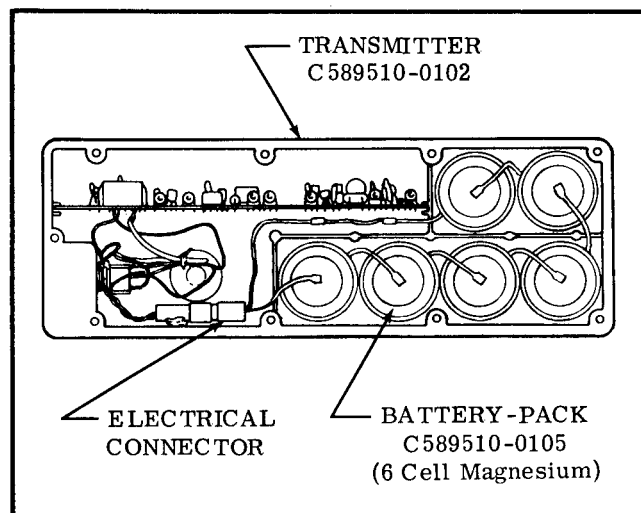
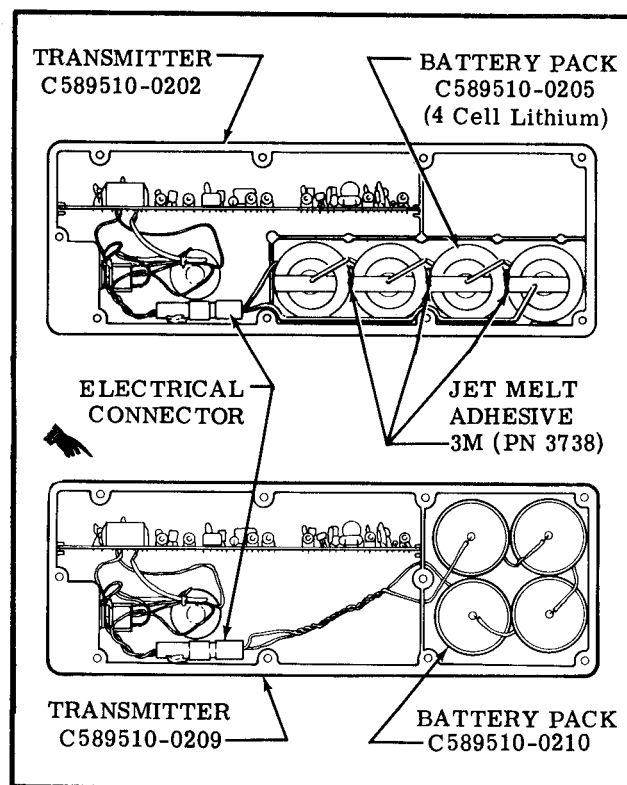

Figure 16-14. Magnesium 6 Cell Battery-Pack Installation
Figure 16-15. Lithium 4 Cell Battery Pack Installations
16-89. DESCRIPTION. The ELT is a self-contained, solid state unit, having its own power supply, with an externally mounted antenna. The C589510-0209 transmitter is designed to transmit simultaneously on dual emergency frequencies of 121.5 and 243.0 Megahertz. The C589510-0211 transmitter used for Canadian registry, operates on 121.5 only. The unit is mounted in the tailcone, aft of the baggage curtain on the right hand side. The transmitters are designed to provide a broadcast tone that is audio modulated in a swept manner over the range of 1600 to 300 Hz in a distinct, easily recognizable distress signal for reception by search and rescue personnel and others monitoring the emergency frequencies. Power is supplied to the transmitter by a battery pack which has the service life of the batteries placarded on the batteries and also on the outside end of the transmitter. ELT's thru early 1974 models, were equipped with a battery-pack containing six magnesium "D" size dry cell batteries wired in series. (See figure 16-14) Mid 1974 thru early 1975, ELT's are equipped with a battery-pack containing four "in-line" lithium "D" size batteries wired in series. Early 1975 and on ELT's are equipped with a battery-pack containing four lithium "D" size batteries which are stacked in two's (See figure 16-15). The ELT exhibits line of sight transmission characteristics which correspond approximately to 100 miles at a search altitude of 10,000 feet. When battery inspection and replacement schedules are adhered to, the transmitter will broadcast an emergency signal at rated power (75 MW-minimum), for a continuous period of time as listed in the following table.
16-93. REMOVAL AND INSTALLATION OF MAGNESIUM SIX (6) CELL BATTERY-PACK. (Refer to figure 16-14.)
16-94. REMOVAL AND INSTALLATION OF LITHIUM FOUR (4) CELL BATTERY-PACK. (Refer to figure 16-15.)
- d. Place new battery-pack in the transmitter with four batteries as shown in the case in figure 16-15.
- e. Connect the electrical connector as shown in figure 16-15.